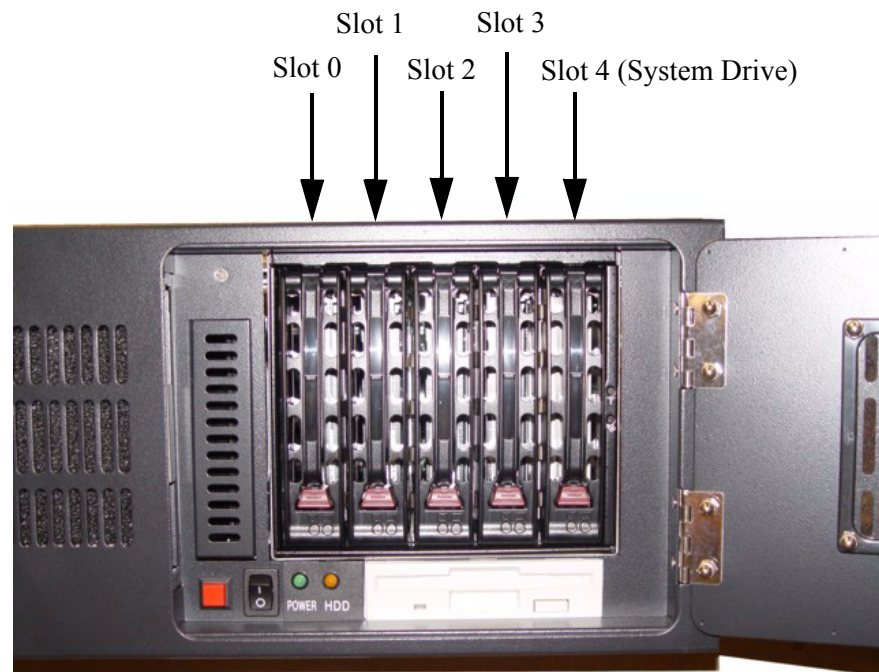
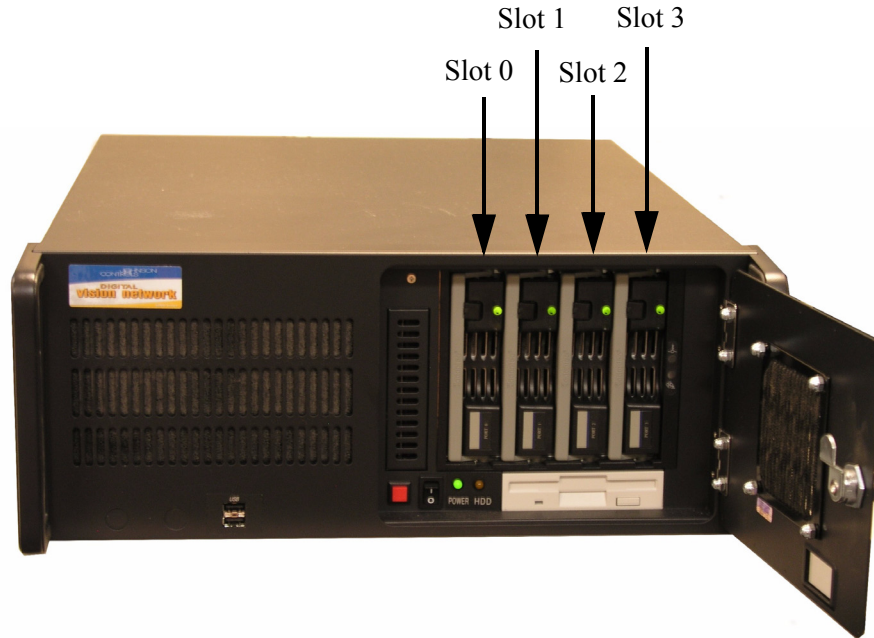

Figure 2: DVN 5000 with a 5-Bay Drive Chassis
Figure 3: DVN 5000 with a 4-Bay Drive Chassis
2. Verify whether the DVN has a 5-bay drive chassis, 4-bay drive chassis, or no RAID drive chassis. See Figure 2 and Figure 3.
- If the DVN has a 5-bay drive chassis with all 5 drives populated, then the DVN has a SATA system drive, which is located in the right-most slot (Slot 4 in Figure 2).
- If the DVN has a 4 bay drive chassis (see Figure 3), then the DVN has an IDE system drive, which can only be accessed by opening up the unit.
3. Disengage the drives in slots 0-3 from the drive chassis, but do not remove them entirely (see Figure 2 on page 23).
4. Remove the System drive from the right-most drive slot (Slot 4 in Figure 2 on page 23).
3. Disengage the drives in slots 0-3 from the drive chassis, but do not remove them entirely (see Figure 3 on page 24).
9. Carefully insert the replacement disk drive into the right-most slot (Slot 4 in Figure 2 on page 23) of the drive chassis. Press the handle until it clicks and the drive is secured.